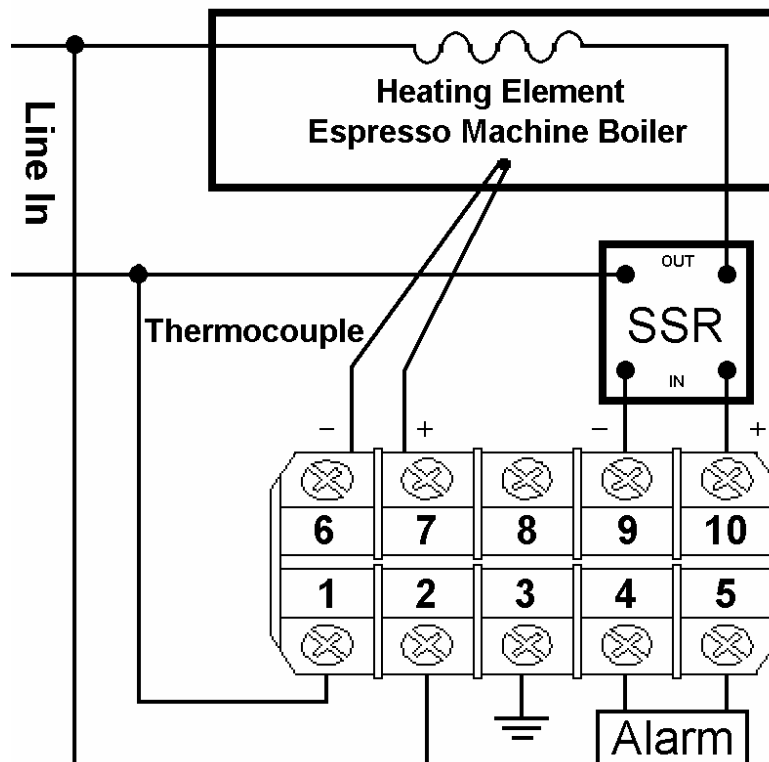

Figure 8
- b) See Figure 8 for connection diagram.